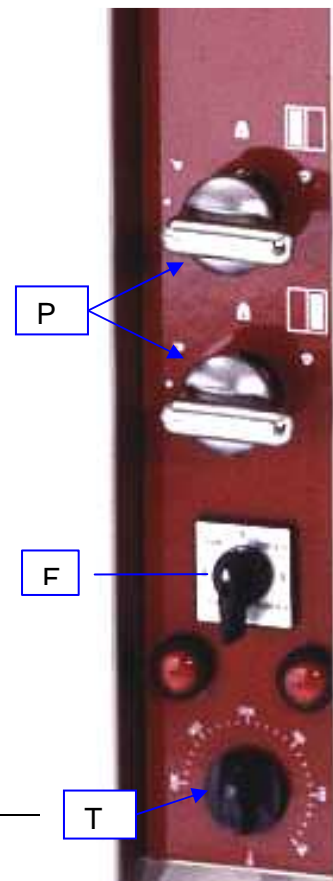

Figure 1
- Push and turn the control knob counter-clockwise of desired burner (fig. 1, mark "P") until the spark symbol.